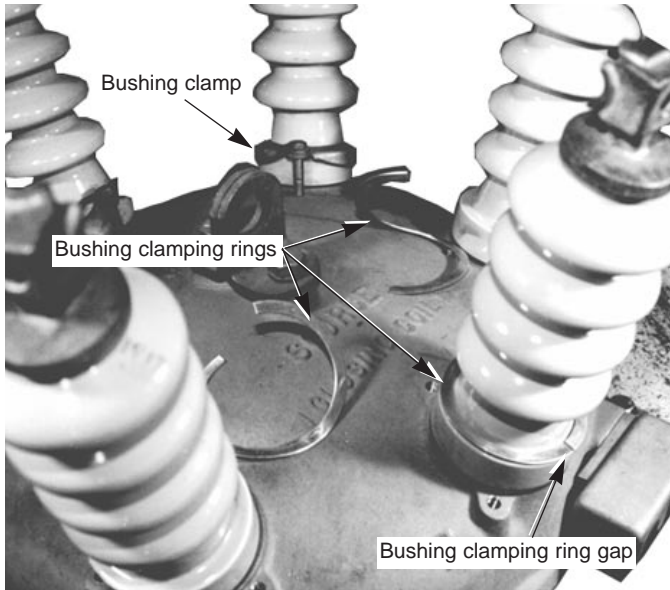

Figure 5.
4. Remove the bushing clamps and carefully remove the clamping rings by slightly bending them (refer to Figure 5). Save all of the hardware from the clamps and the clamping rings for reassembly.
Note: The bushing clamping rings are to be mounted with the gap toward the outside of the head casting to allow liquids to drain out (refer to Figure 5).